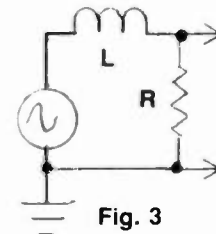

Fig. 3
23. In the circuit of figure 3, increasing the generator frequency will:
24. In figure 3 the generator frequency is such that reactance and resistance are equal. Then:
25. In figure 3, inserting an iron core in the coil will: